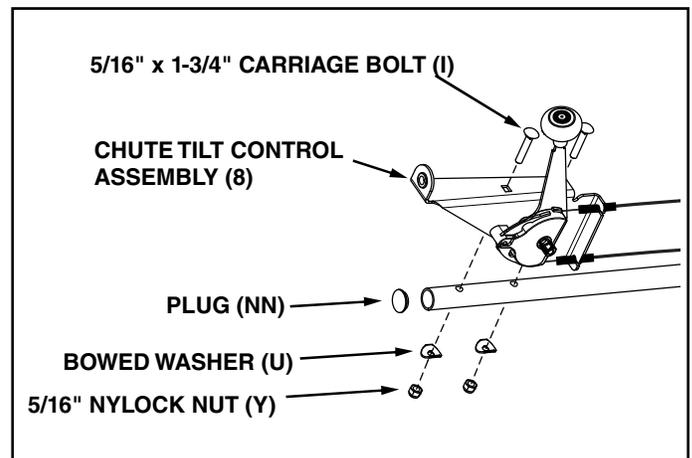

FIGURE 50
STEP 51: (SEE FIGURE 50)
- Install the plug (NN) into the end of the crank support tube.
- Attach the chute tilt control assembly (8) to the top side of the crank rod support tube using two 5/16" x 1-3/4" carriage bolts (I), bowed washers (U) and 5/16" nylock nuts (Y).